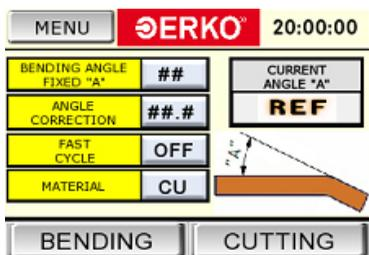

Fig. 8.
- Start the station in accordance with the procedure set out in item 5.1.
- Go to the bending mode (fig. 7) or during normal operation press the BENDING button at the bottom of the screen (fig. 8).
- Find the reference point of the measuring system (“REF” is displayed in the “CURRENT ANGLE “A” field (fig. 8)). To find the reference point of the encoder, bend the rollers of the angle measuring insert (the insert must be connected to the installation socket). The operation should be completed with the appearance of an angle value (fig. 9). Values in the manual are represented by the “#” sign.
- Go to the cutting mode (fig. 7) or during normal operation press the CUTTING button at the bottom of the screen (fig.8). The cutting mode screen is shown in figure 21.
- Switch on the station power supply and follow in accordance with item 5.1.
- Press the “MENU” button located in the left upper corner of the panel (fig. 8).
- Press the "MENU" button located in the left upper corner of the panel (fig. 8).